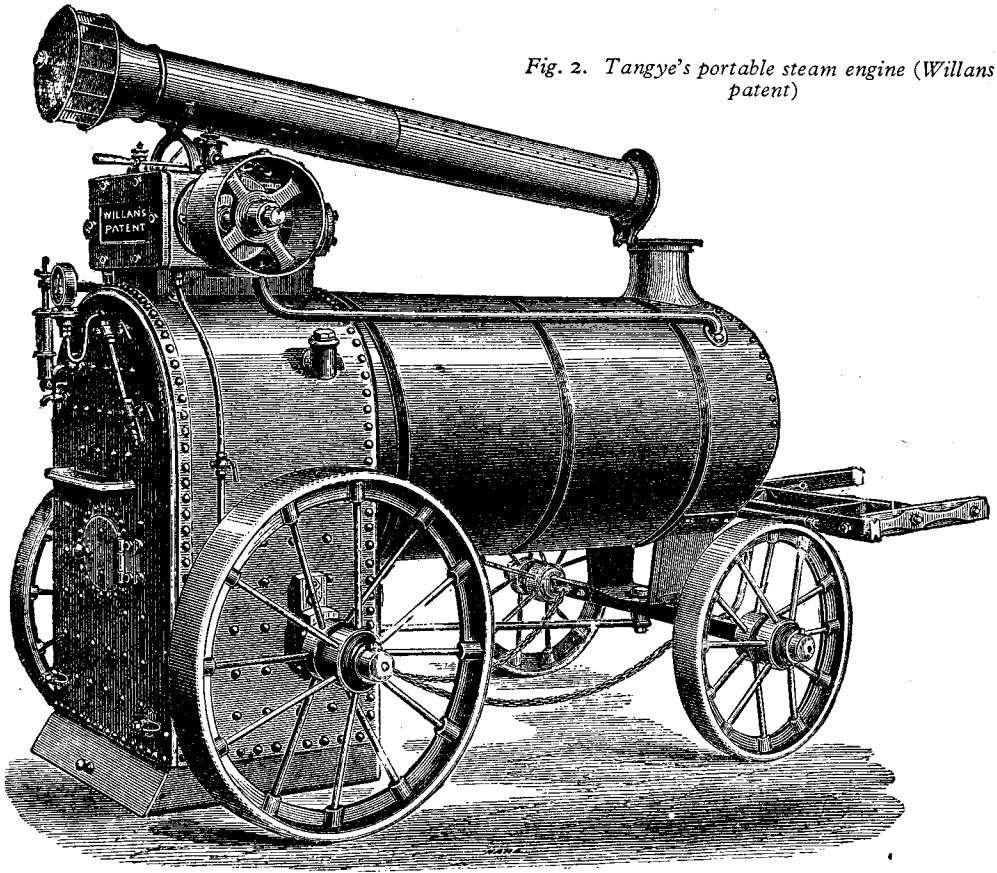

Fig. 2. Tangye's portable steam engine (Willans patent)
(3) Connected to a vertical boiler for various stationary purposes.
(4) As the portable steam engine, shown in Fig. 2.